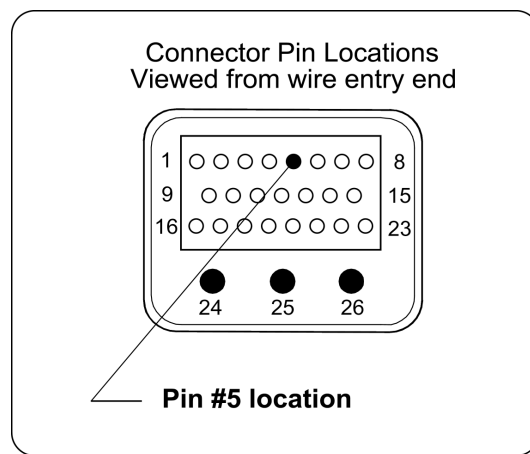
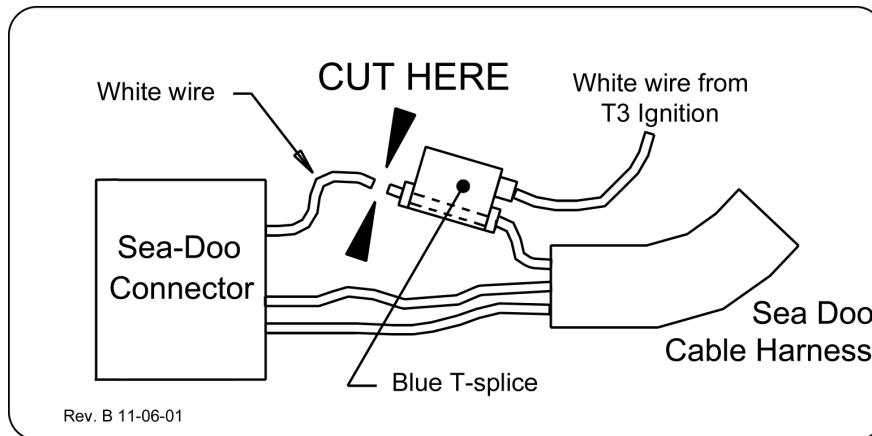

Figure 2
Figure 3
5. Locate one of the matching colored wires in the wiring harness. Confirm the wire is installed in the correct pin location of the connector (see connector detail in Figure 2). Unsnap the flap on a blue T-splice exposing the side wire slot. Slide the Sea-Doo wire into the slot. Be sure that the end of the splice with two holes is facing away from the connector (see Figure 3). Position the blue T-splice 2" or 3" from the Sea-Doo connector, then snap the flap over the wire slot to hold the wire in place.
2. Using a pair of wire cutters, cut the White wire that runs between the blue T-splice and the Sea-Doo® connector (see Figure 3). Cut the wire close to the blue T-splice. This will leave a pig tail on the Sea-Doo connector to reconnect the stock ignition if it becomes necessary.